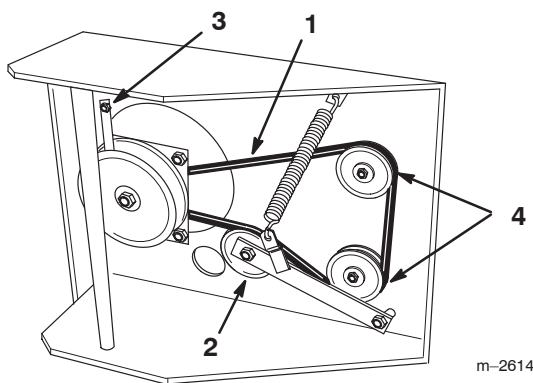

Figure 33
4. Remove left front engine mounting bolt securing clutch retainer to frame (Fig. 33). Unhook retainer from clutch and remove retainer.